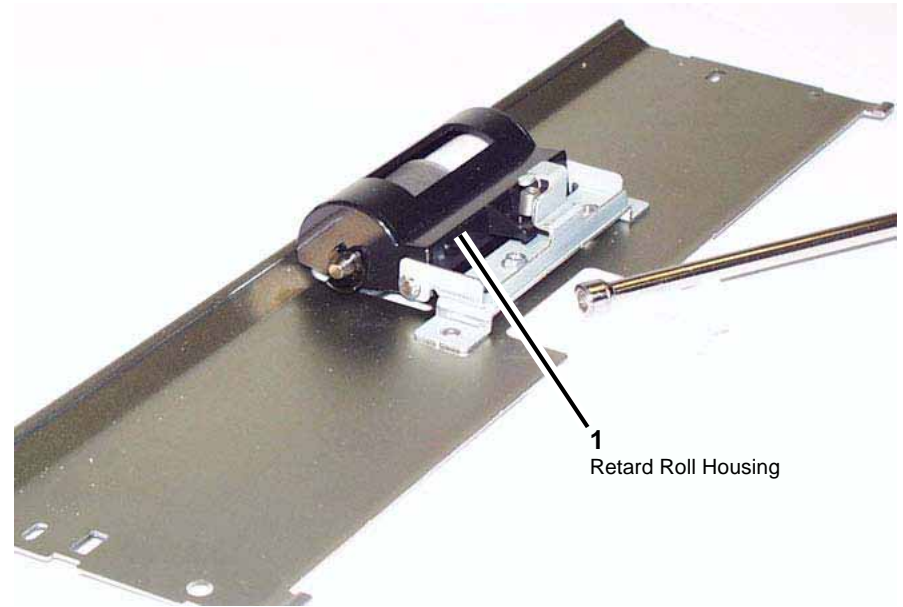

Figure 1 Retard Roll Housing
- a. Remove the securing screws (4).
3. With the Chute's flat side down on a cushioned surface, remove the screw on the Bracket securing the Retard Roll Housing assembly to the Chute. Figure 1